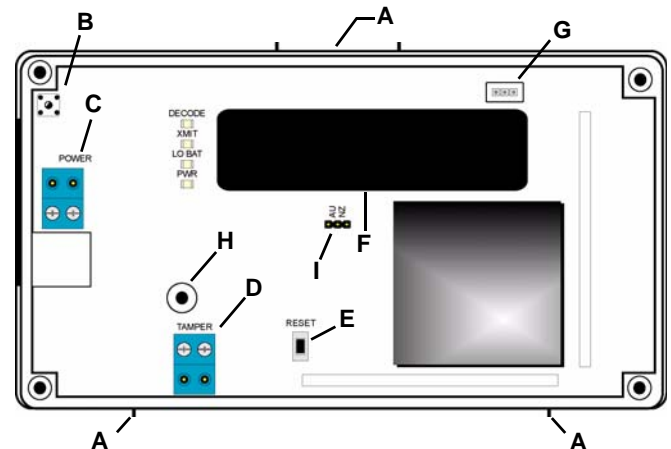

Figure 2 EN5040-T Components
1. Use a small screwdriver to press the housing release tab on the top or bottom of the high-power repeater (Fig. 2); separate the housing.
2. Connect power cabling (Fig. 2).
1. Plug the connector cable from the backup battery into the battery connector (Fig. 2).
1. Use a small screwdriver to press the housing release tab on the top or bottom of the receiver (Fig. 2); separate the housing.
2. Place a selection jumper on the appropriate frequency band selection pins (Fig. 2).
1. Attach the included screw to the wall through the tamper mounting hole (Fig. 2).